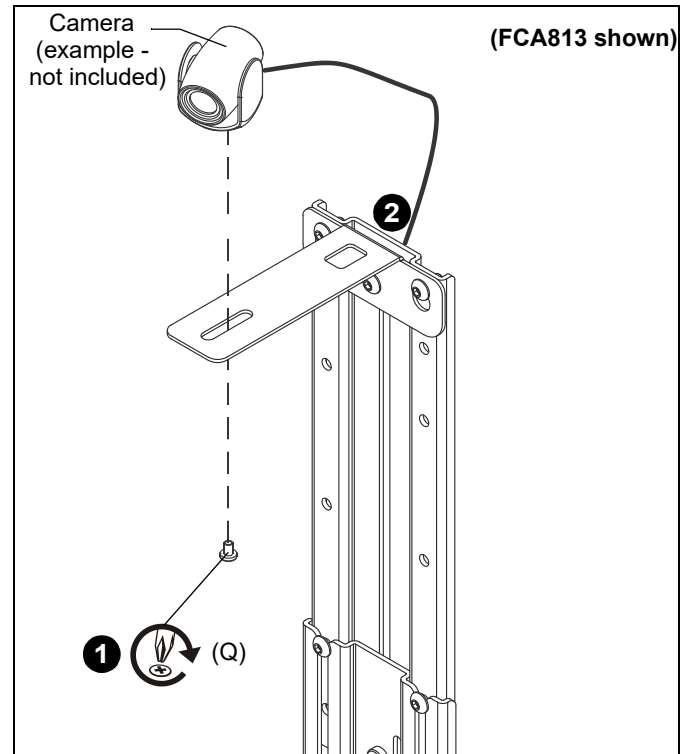

Figure 23
1. Install 1/4-20 x 3/8" Phillips pan machine screw (L) through mounting slot on shelf and into hole on bottom of camera. (See Figure 23)
2. Route cable from camera towards back of shelf and down behind the FCA803/813. (See Figure 23)